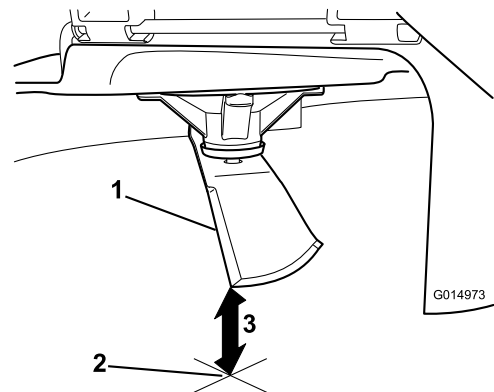

**Figure 93**
3. Measured distance between blade and the surface (A)
4. Rotate the same blade 180 degrees so that the opposing cutting edge is now in the same position (Figure 93).